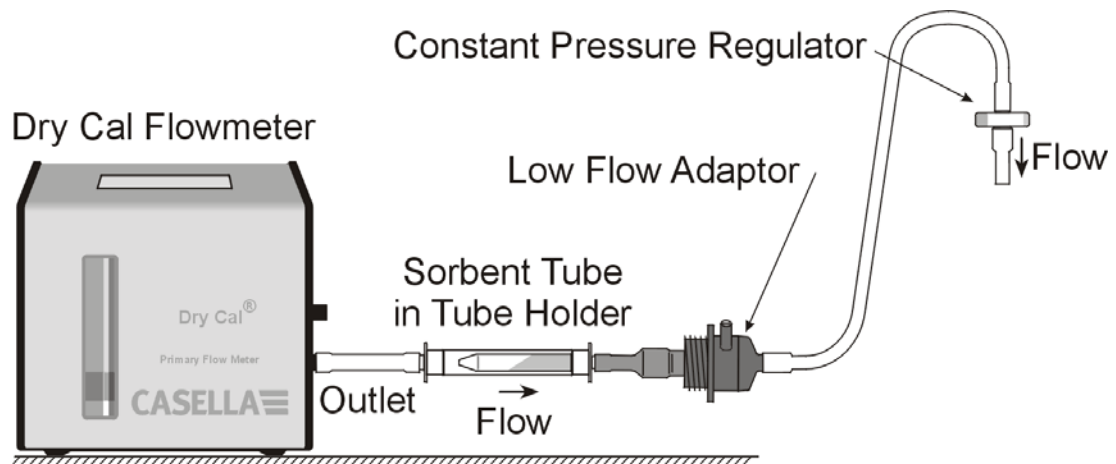

Figure 14 Use with Low Flow Adapter
This example assumes the intention is to run the pump for 4 hours, then pause for 1 hour, and then resume running for another 4 hours. Use the UP/DOWN keys to step through the Stop Mode Menu Options (See Fig. 14 for details) until PRG1 screen is displayed.
K.USE WITH LOW FLOW ADAPTOR (Fig 14)
3. Starting from the TUFF inlet, connect the following: constant pressure regulator, low flow adaptor, sorbent tube holder and a flow meter such as the Dry Flow or Dry Cal shown in Figure 14.